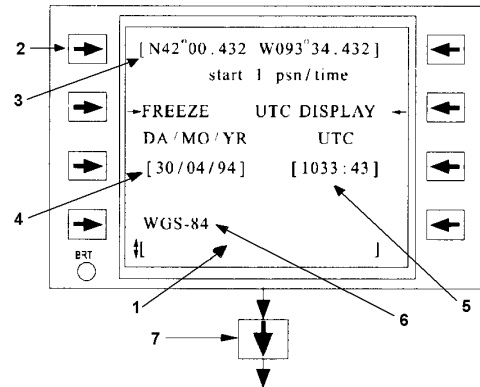

Figure 3B-21. Start 1 Position/Time Initialization
1. Verify or enter position, time, date, and chart datum on the Start 1 page. Refer to Figure 3B-21 and Table 3B-13. Normally the GPS will provide the correct position, time, and date